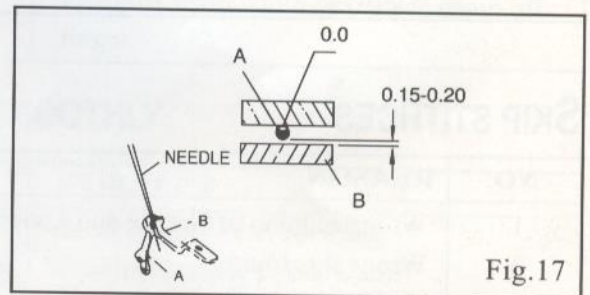

Fig.17
#### (5) Needle and Needle Guard Fig.17